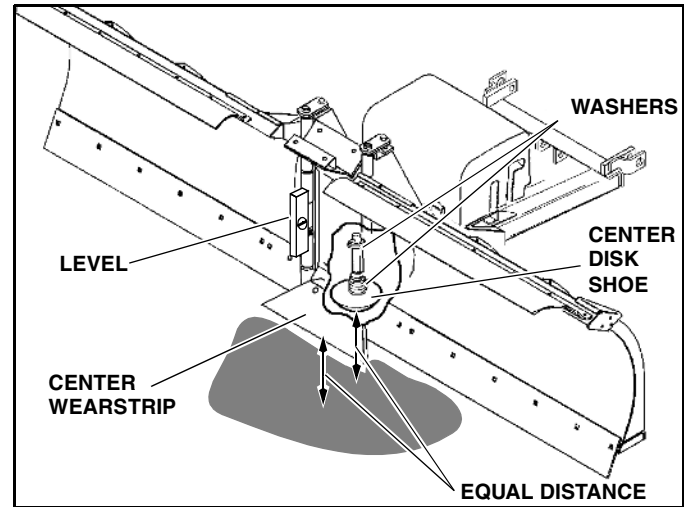

Figure 2-7
5. Determine whether the center Disk Shoe or the center Wearstrip is off the ground and measure the amount that it is off the ground. (See Figure 2-7)